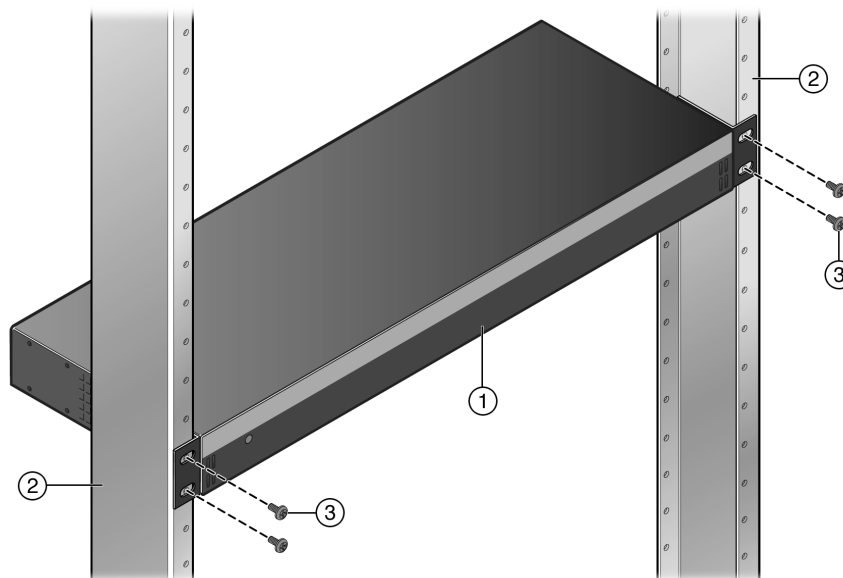

Figure 220: Fastening the RPS-500p to the Rack
2. With the rack-mounting brackets attached, position the RPS-500p between the vertical rack rails of the 19-inch rack as shown in Figure 220.